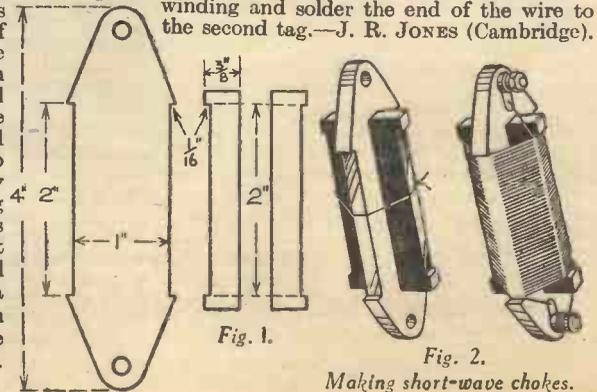

Fig. 1.
**A** NEAT short-wave choke that can be suspended in the wiring of a set can be made as follows: Cut the former out of three pieces of 3-16in. ebonite to the dimensions given in Fig. 1. Assemble the three pieces, as in Fig. 2, and tie them together with thread. Fix a 6 B.A. terminal in each hole, with a soldering tag, solder some 36 d.s.c. to one tag and begin the winding. When the winding is well advanced, the thread can be removed, the turns of wire holding the former together. Finish the winding and solder the end of the wire to the second tag.—J. R. JONES (Cambridge).